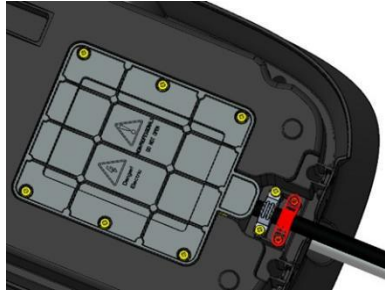

Figure 27: Install the wiring cover and the cable entry clamp
- Use six M4*12 screws to tighten the wiring compartment cover, and two M4*12 screws to tighten the crimping ferrule. Note that there are two positions for the crimping ferrule, depending on the thickness of the incoming cable. (Figure 27)